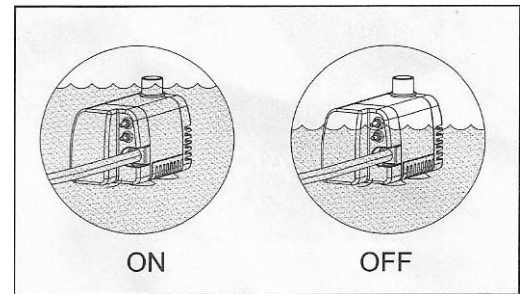

Fig.1
1. Place the pump in the desired fountain and connect (from fountain) tubing to the outlet of the pump. Fig. 1